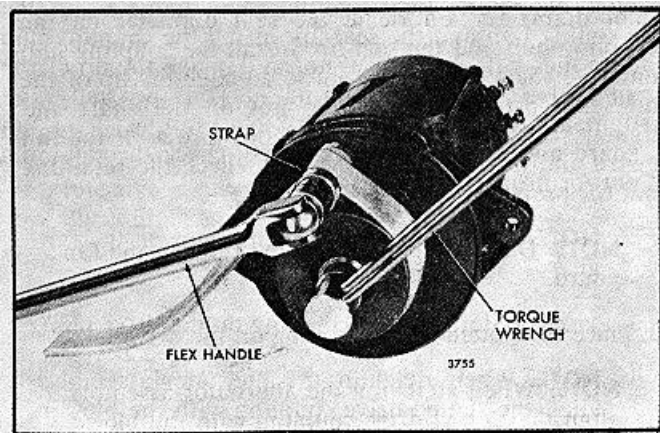

FIG. 4 - Tighten Generator or Alternator Pulley Retaining Nut
1. Install the drive pulley, if it was removed. Tighten the pulley retaining nut to 50-60 lb-ft (68-81 Nm) torque (Fig. 4).